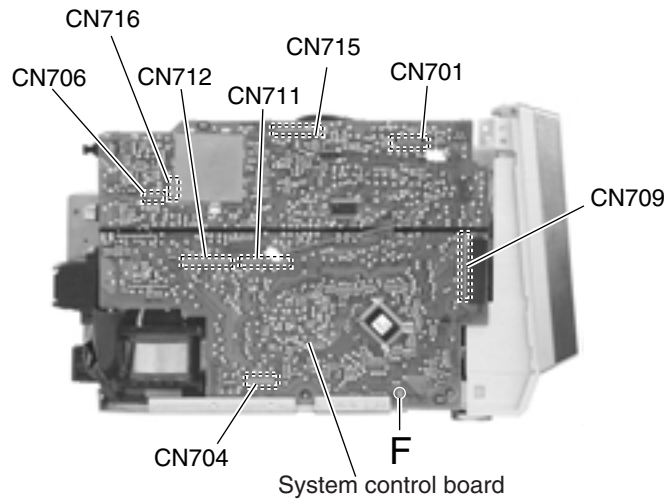

Fig.9
■ Removing the system control board (See Fig.9)